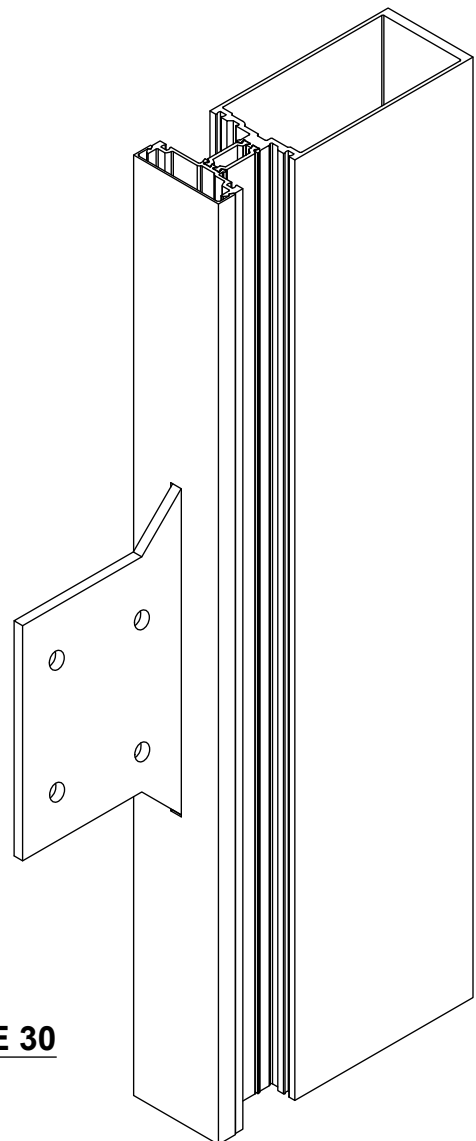

FIGURE 30
- 2) The face cap will be notched at sunshade anchor to fit over sunshade anchor blade, See **FIGURE 30**. Face cap may also be notched at each end and spliced at centerline of anchor. WW-110 face cap shown. Install caps per OBE standards as shown in Reliance installation manual.